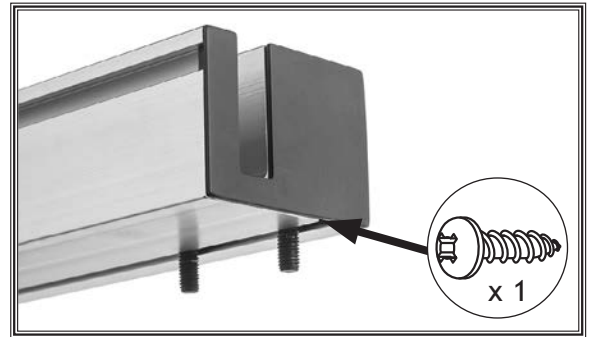

Figure 21. Left end cap of front fence rail.
11. Install end cap with (1) pre-installed tap screw on left end of front fence rail (see **Figure 21**).